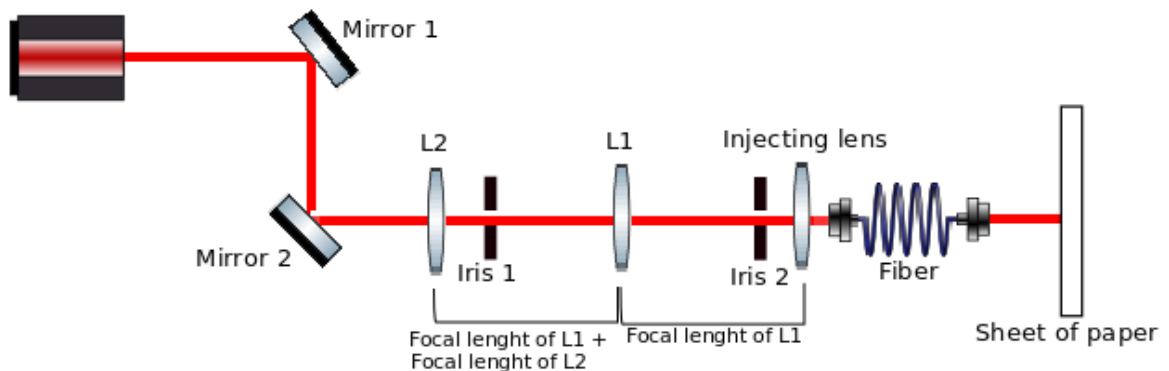

Figure 5 : Setup with the sheet of paper at the end of the fiber.
15. To verify if the fiber is well placed after the injecting lens for injection, place a sheet of paper at the other end of the fiber. (Figure 5)